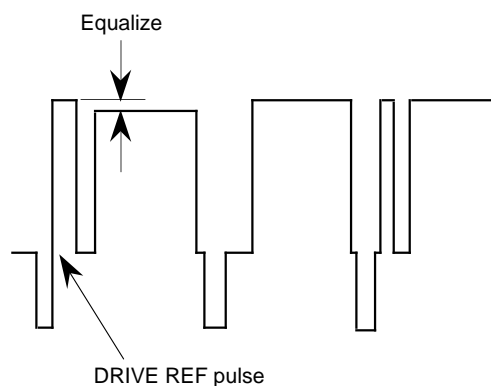

Fig. 5-15
3. As shown in Fig. 5-15, adjust the DRIVE REF data so that the all white peak level and DRIVE REF pulse level of the signal become equal.